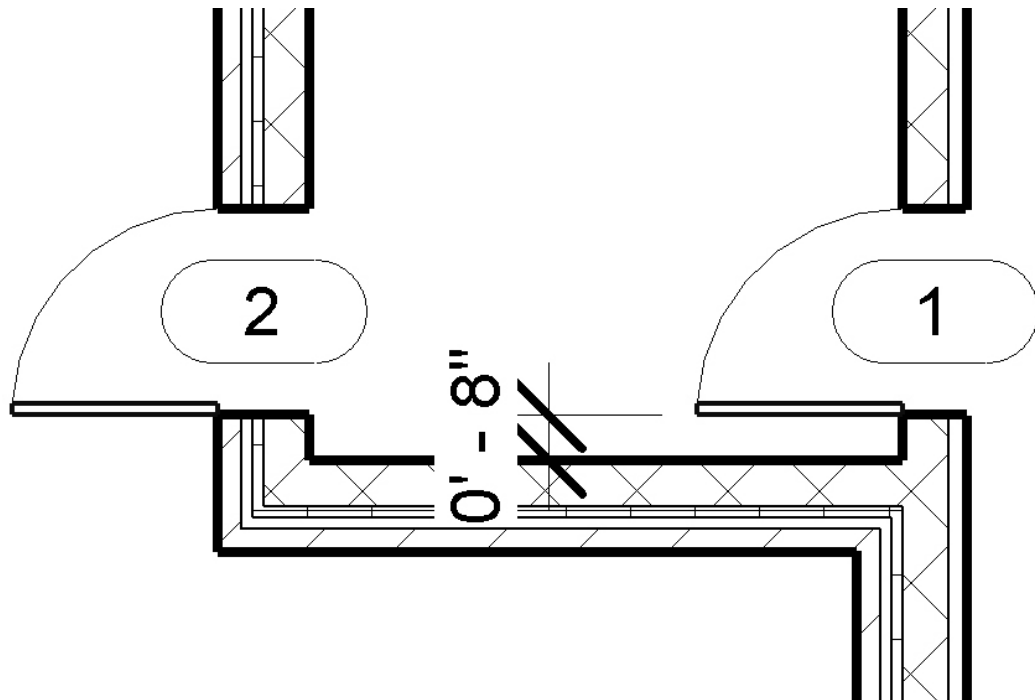

Figure 3-5.4 Door in west stair shaft
8. Insert two doors in the west stair shaft as shown in Figure 3-5.4. Remember you are inserting a door into a masonry wall so your door position and size need to work with coursing. Thus the 8" dimension.